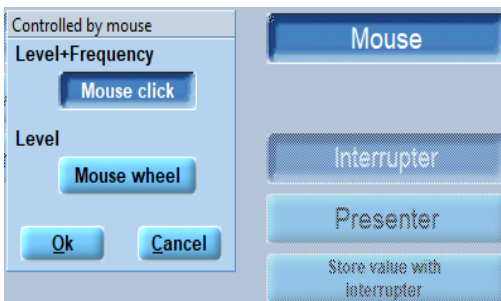

Figure 59
**Store value with interrupter:** value is automatically stored when the sound is paused (pressing the **Enter** key is not necessary) (Figure 59).